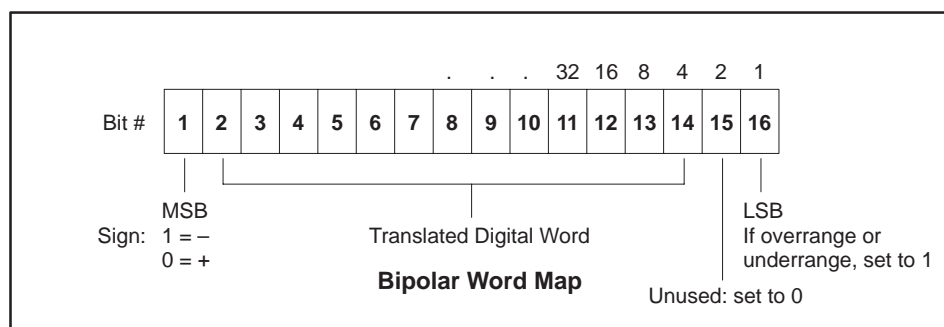

Figure 1-3 Word Input to the PLC from the Module (Bipolar)
**Bipolar Presentation** As shown in Figure 1-3, of the three bits not used for the digital word, one is used to show the sign of the word, one is used to note values which are “overrange,” and the remaining bit is not used and set to zero.